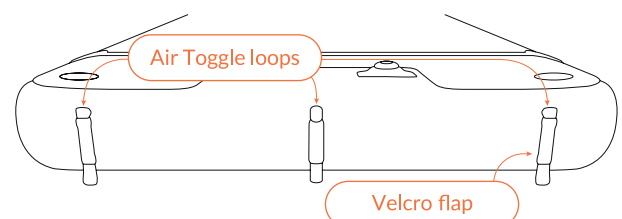

Fig 58 - Air Toggle loops and Velcro straps
5. Always ensure that all Air Toggle straps not being used are kept fastened by the Velcro flap before and during towing. Failure to do so may cause damage to the straps and entanglement whilst in the water. (Fig 58)